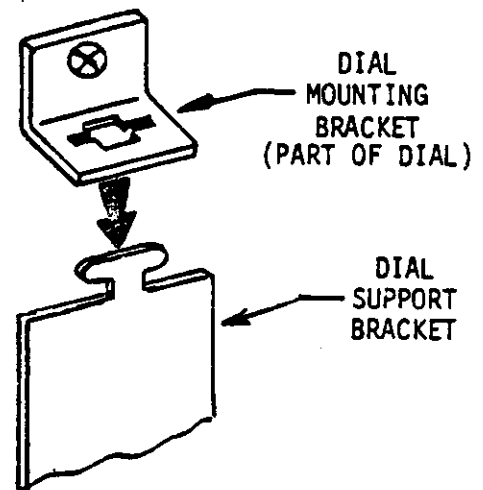

FIGURE 2
- c) The dial is then mounted by placing the slots of the dial brackets over the tabs of the support brackets and sliding the complete dial assembly to the right (see figure 2).